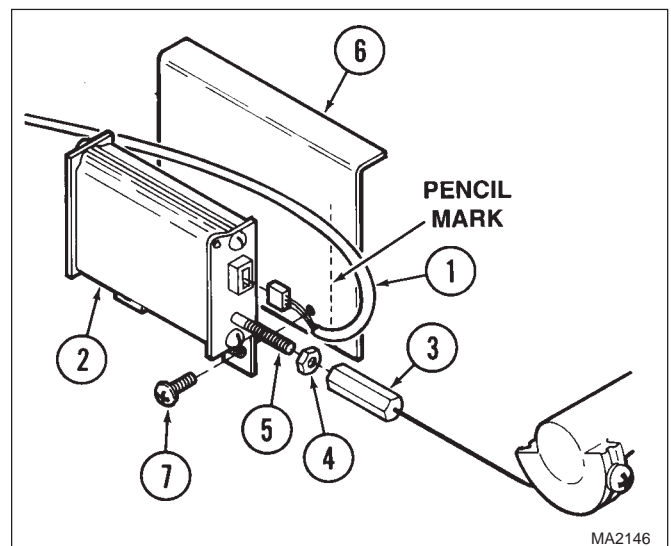

Figure 4-20. Trendelenburg Transducer Removal / Installation
- (1) Lower the bellows assembly (Refer to para 4-3).
- (2) Disconnect wire harness (1, Figure 4-20) from trendelenburg transducer (2).
- (3) While holding cable/turnbuckle assembly (3), loosen nut (4).
- (4) Unscrew cable/turnbuckle assembly (3) from transducer rod (5).
- (5) Using a pencil or sharp object, mark the present position of trendelenburg transducer (2) on the transducer mounting plate (6) by tracing the outline of the trendelenburg transducer mounting brackets.
- (6) Remove two screws (7) and trendelenburg transducer (2) from trendelenburg mounting plate (6).
- (7) Remove nut (4) from transducer rod (5).